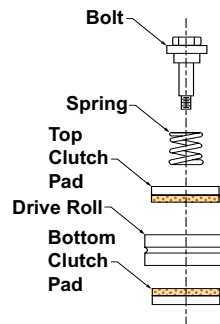

Figure 5
6. As shown in Figure 5, mount the bottom clutch pad, the drive roll, the top clutch pad, and the spring/bolt assembly to the feeder's outgoing side drive shaft. **DO NOT OVERTIGHTEN THE BOLT.** Only snug it to secure the assembly. The proper tension is preset for the wire size and does not need adjustment. Make sure that the clutch material faces the drive roll.